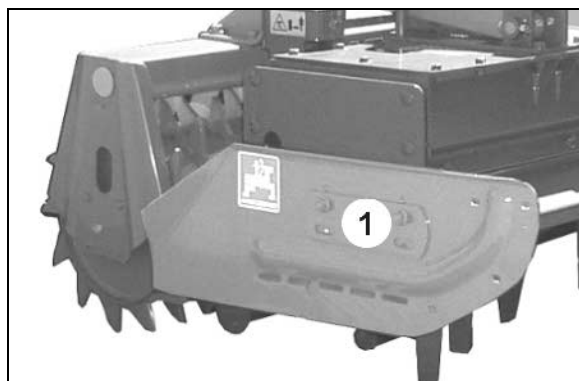

Fig. 15
The side plates (Fig. 15/1) ensure that the tilled soil cannot escape laterally or from between the soil tillage implement and the packer roller. The flow of soil is guided towards the rear so that it falls directly under the roller.
- Spring suspended side plates (Fig. 15/1).